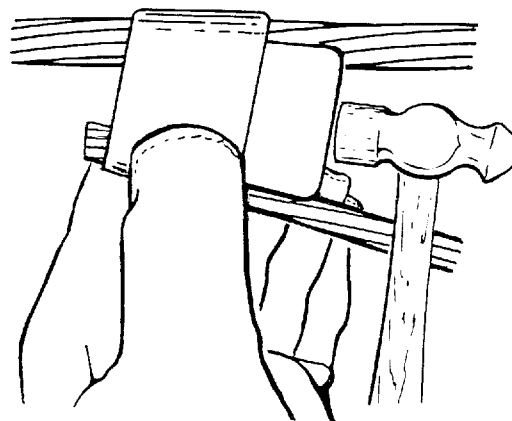

Figure 15
4. Strike wedge once or twice with hammer to secure it temporarily as shown in Figure 15. The tap or stirrup is now self supporting.